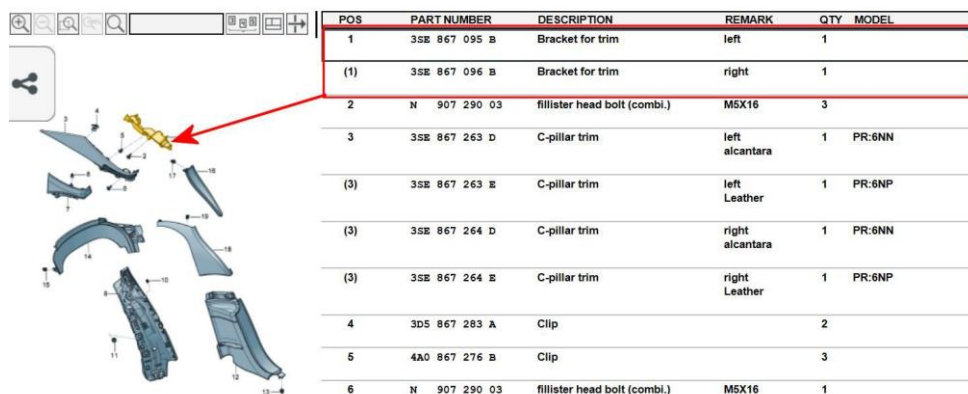

Figure 1
2) Remove the applicable upper C post trim panel – Refer to Rep.Gr 70 to gain access to the Brackets shown in Figure 1